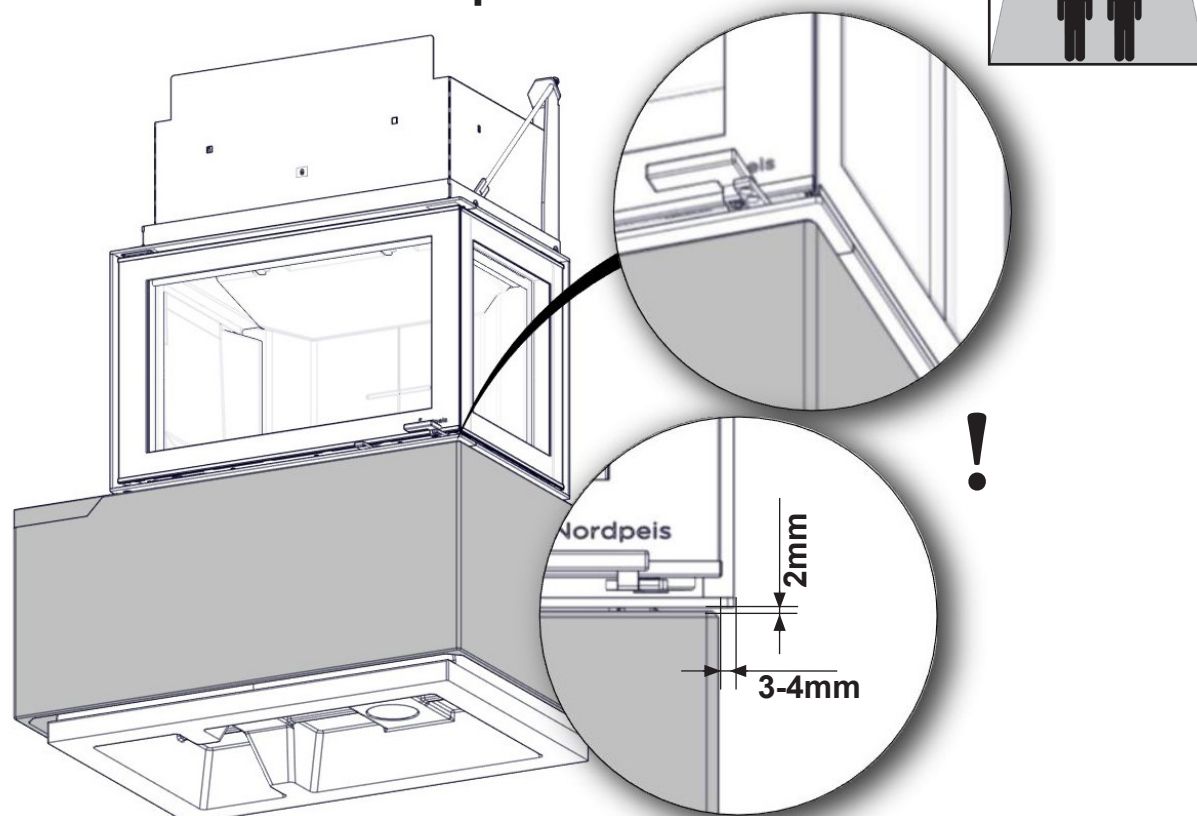

FIG 12 Davos A High\_N-29A
FIG 12 a
FIG 12 b
**FIG 12 c** Davos A High\_N-29A